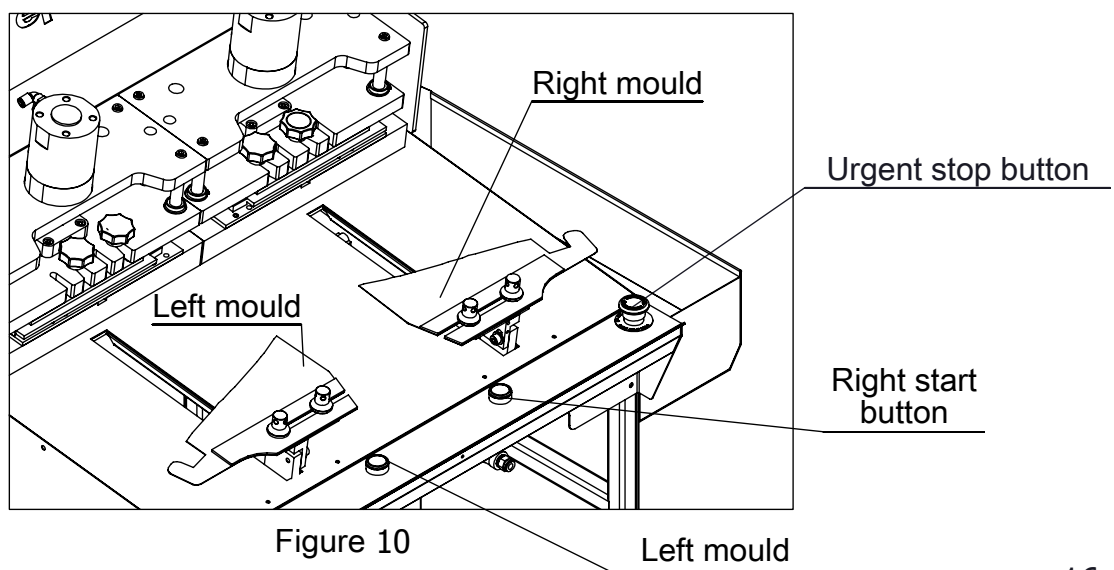

Figure 10
10. The collar that you will iron replace to mould at side that you will iron. (Figure.10)
11. If you will do ironing at right side, after you replaced the collar to mould, hold the cloth with your right hand tightly. Until the right pressing to become a part of an activity, hold down the right start button with your left hand. (Figure.10)
12. If you will do ironing at left side, after you replaced the collar to mould, hold the cloth with your left hand tightly. Until the right pressing to become a part of an activity, hold down the left start button with your right hand. (Figure.10)